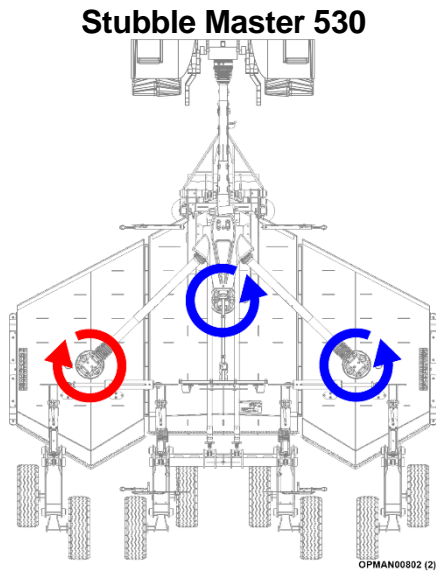

Figure 1.6
In order to create a consistent and quality cut and through-flow of material through and out of the machine, Stubble Master machines have anti-clockwise and clockwise rotating rotors which are in turn fitted with left-hand (LH) and right-hand (RH) blades. The rotation direction of each of the rotors is stated in Figure 1.6 for the Stubble Master 530 and Figure 1.7 for the Stubble Master 750.